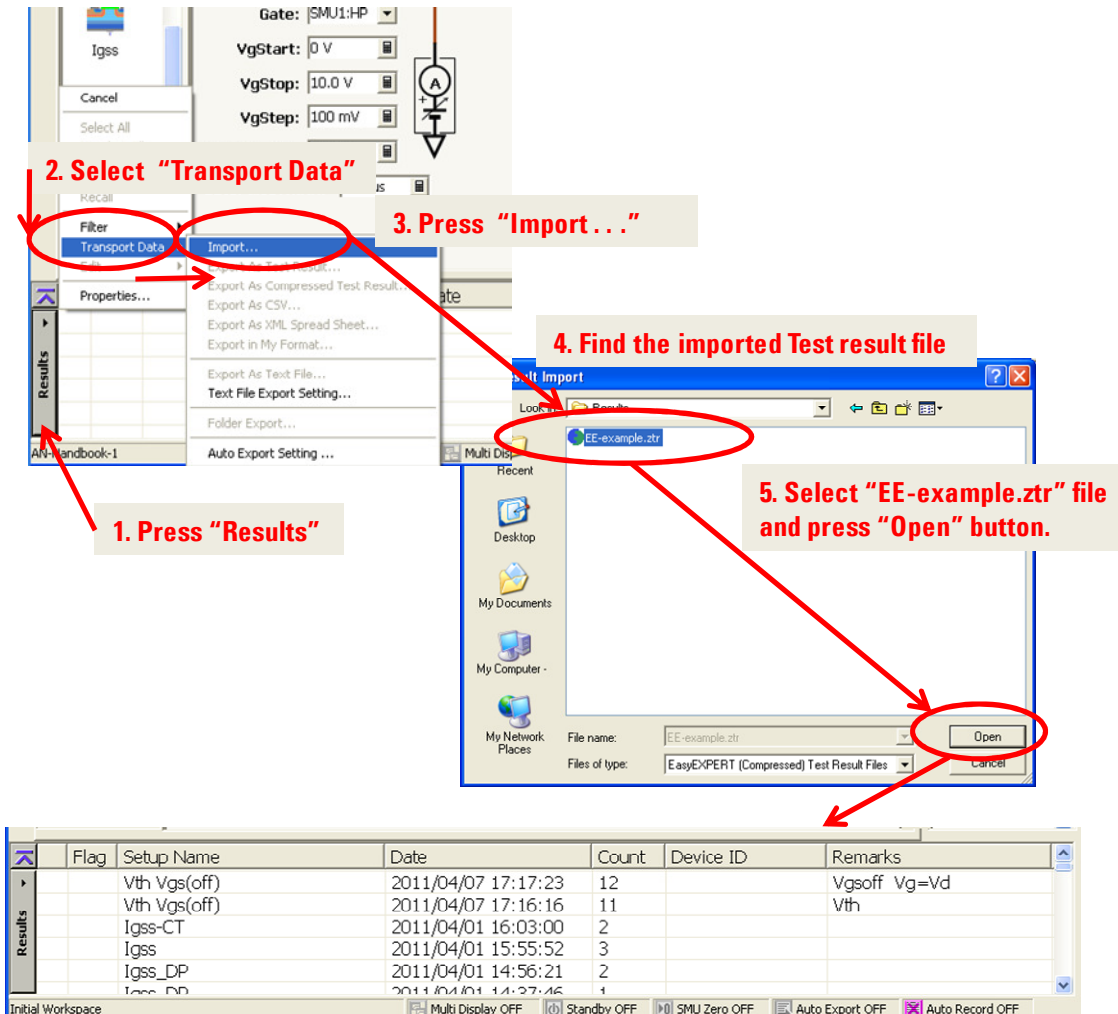

Figure 2-21. Importing the example Results data files.
**[PROCEDURE] – See figure 2-21**